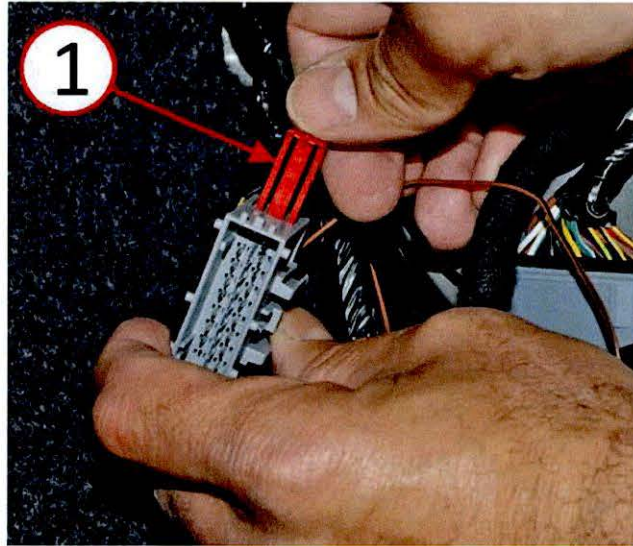

**Fig. 21 Right Door Inline Electrical Connector Unlock**
25. Disconnect the right front door inline electrical connector C154 by sliding the blue electrical connector lock (Fig. 21).